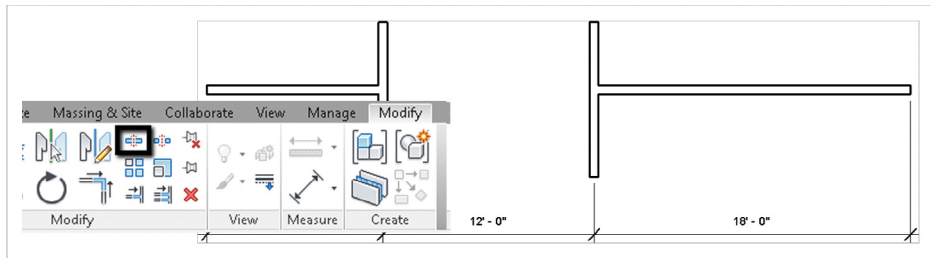

FIGURE 2.19 Using the Split Element command
3. Delete the inner segment. Your wall layout now resembles Figure 2.19.